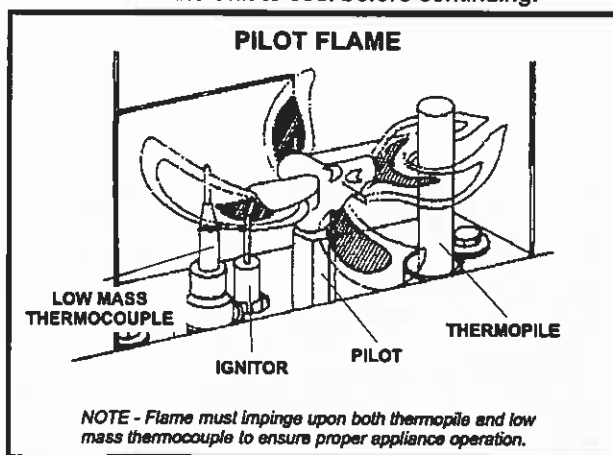

FIGURE 12
- 2 - Observe pilot flame. A torch-like flame should extend from each of the four pilot hoods as shown in figure 12. If flame does not appear as shown, follow procedures outlined in troubleshooting section which begins on page 21. Do not attempt to operate the appliance without proper pilot flame.